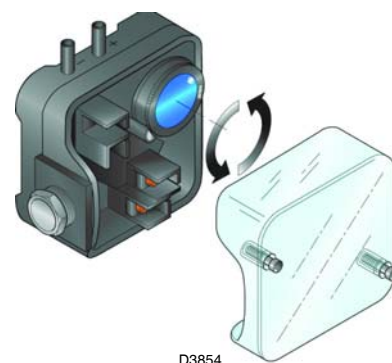

Fig. 41
- Adjust the air pressure switch (Fig. 41) to the start of the scale.
Adjust the air pressure switch (Fig. 41) after having performed all other burner adjustments with the air pressure switch set to the min. of the scale.